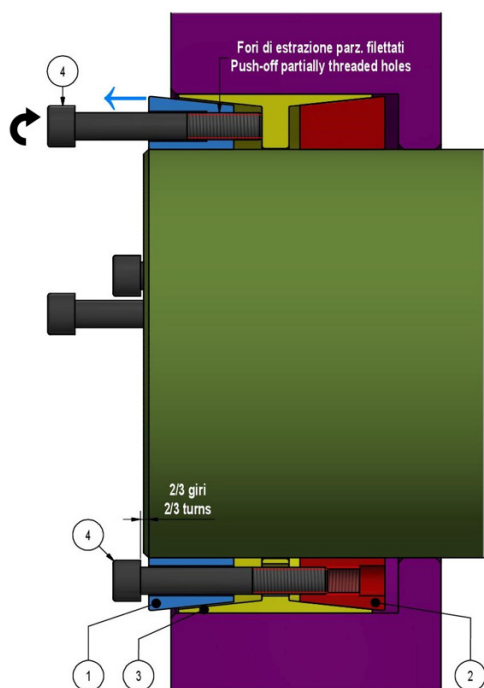

Fig. 4
2. Loosen all screws by two/three turns; then transfer some screws into all push-off partially threaded holes in the front thrust ring. **Progressively tighten these screws in a crosswise pattern, using approx. ¼ turns for several passes** until the front thrust ring is released (fig. 4). Start with a screw located at 90° approx. respect to slit; screws adjacent to slit shall be tightened in a row. Remove the screws still engaged in the rear thrust ring; then remove the front thrust ring.